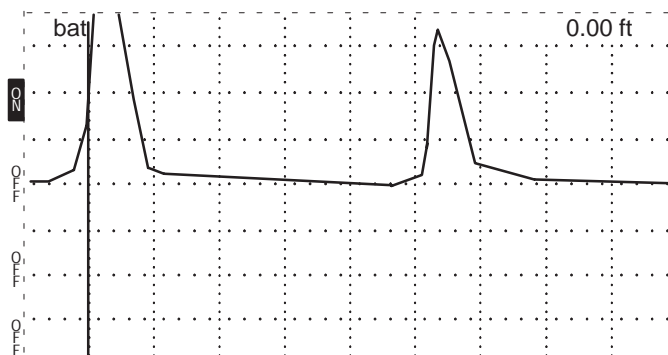

Figure B-2: Measurement Display with 10-foot Cable
2. Connect the 10-foot cable to the front-panel CABLE connector. The display should now look like Figure B-2.